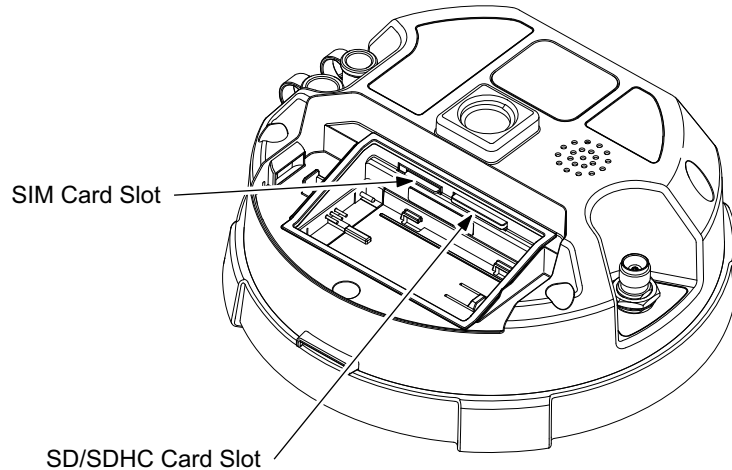

Figure 25: HiPer V Card Slot Example
3. Carefully push the SD/SDHC card, label side down, into the SD/SDHC card slot (Figure 25) until it locks into place. Or, push the card once to remove it..